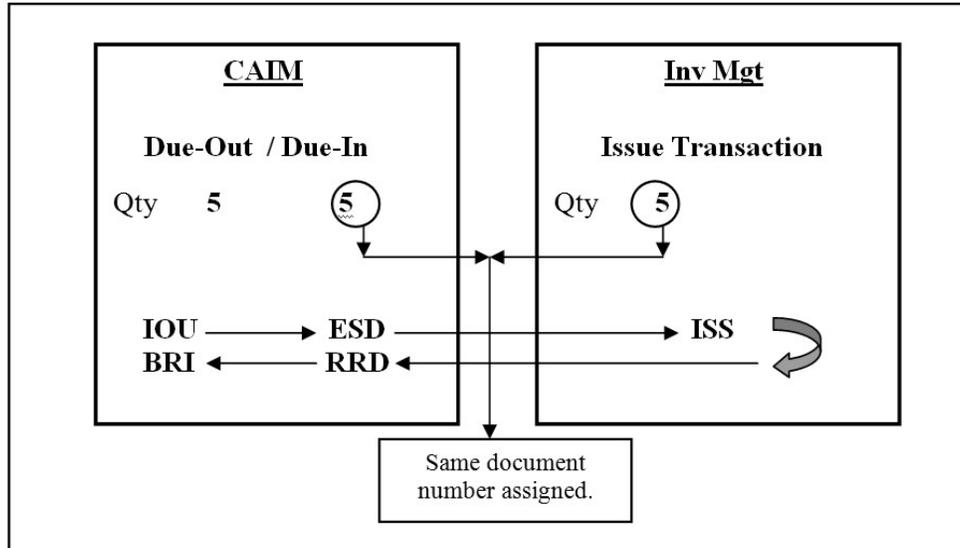

Figure 26. Logistics Fulfilled Customer Requirement (Issue Generated)
2. If the request is filled, a LOG issue transaction is generated. In this instance, three transactions are written to Transaction History: the CAIM ESD, a due-out, as well as the LOG issue. In this case, the customer requirement was filled by LOG and the transaction is complete (Figure 26).